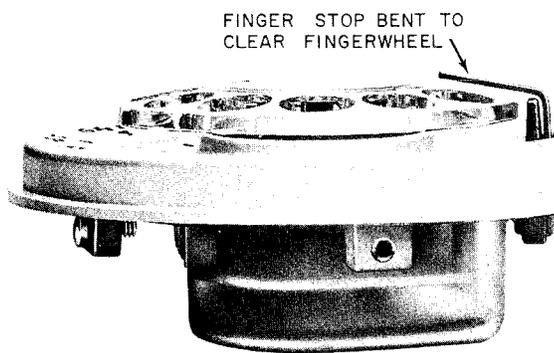

Fig. 14—7-Type Dial With P-11E007 Fingerwheel Installed
**Note:** When replacing a P-19B524 fingerwheel with a P-11E007 fingerwheel, the finger stop must be bent upward to clear the fingerwheel (Fig. 14).